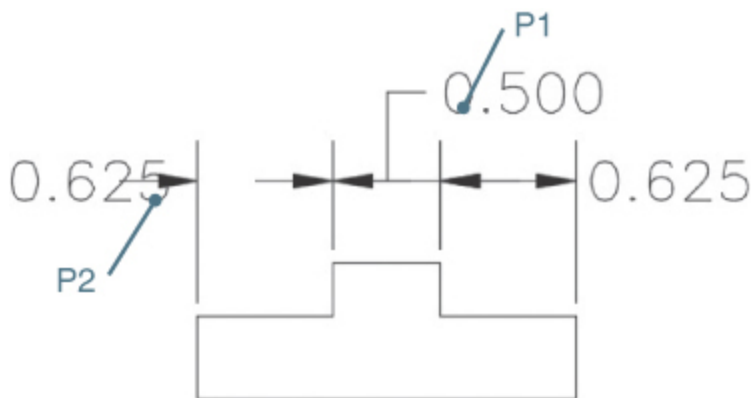
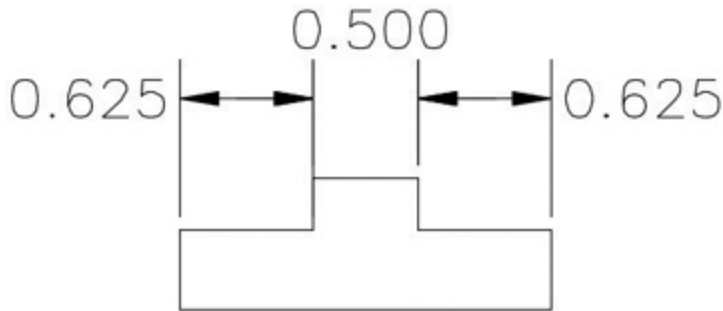

Figure 13-89
Figure 13-90
- 2 Select the dimension shown at P1 in Figure 13-89. Hover your cursor over the text grip to display the **Multifunctional Grip** menu, and select **Move with Leader**. AutoCAD will start dragging the dimension text. Place the dimension text as shown in Figure 13-90.
- 3** Select the arrowhead shown at P2 in Figure 13-89. Hover your cursor over the arrowhead grip to display the **Multifunctional Grip** menu, and select **Flip Arrow**. The arrowhead flips to the other side of the extension line.